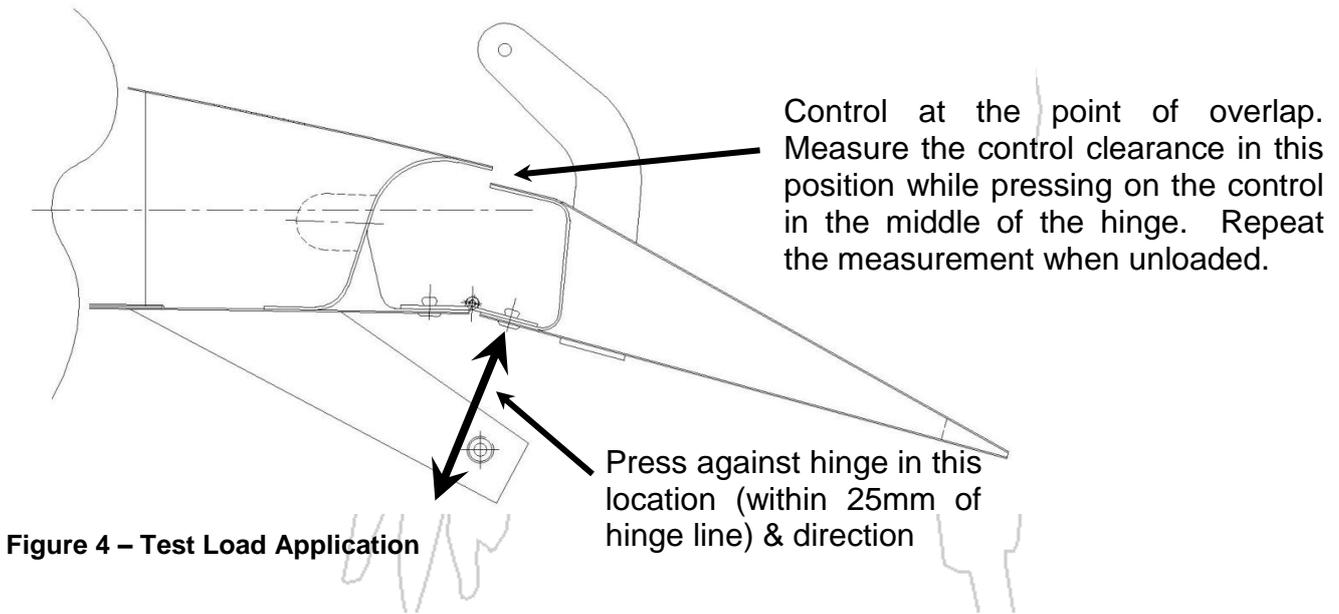

Figure 4 – Test Load Application
4. Controls are to be tested this way at every hinge. The force to be applied in each direction is approximately 5-7kg (11 – 15lb). Inspectors can “calibrate” their thumbs by pushing onto a set of scales to indicate how hard they need to push. See Figure 4 for details of where to push on the controls.